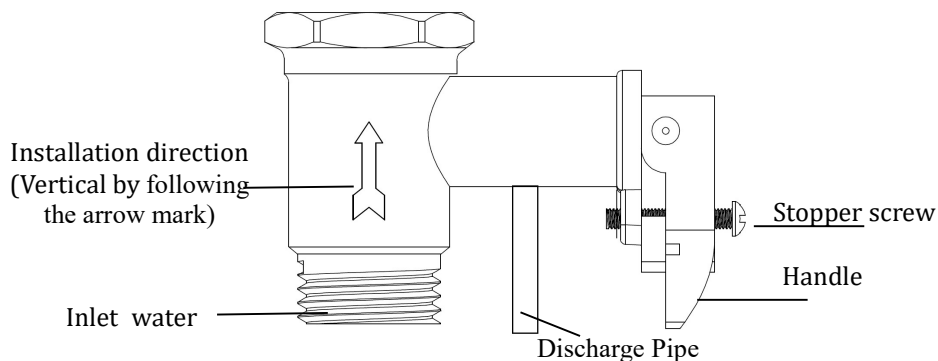

Fig.7
- c. Unfasten the screw on the handle (as shown in Fig. 7)
- d. Lift the handle (by following the direction as shown in Fig. 7)